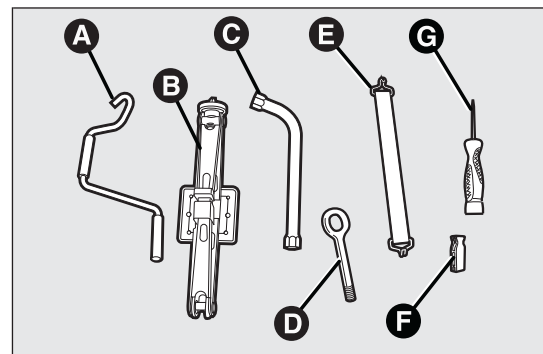
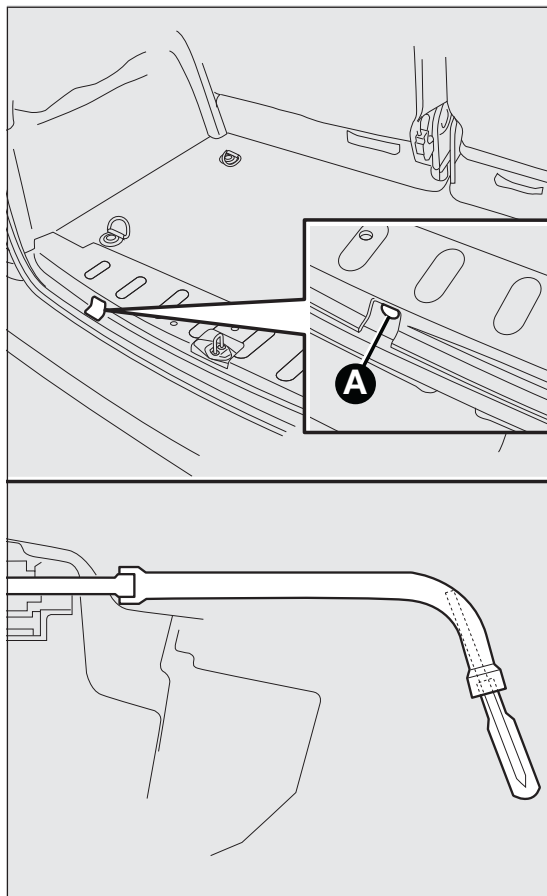
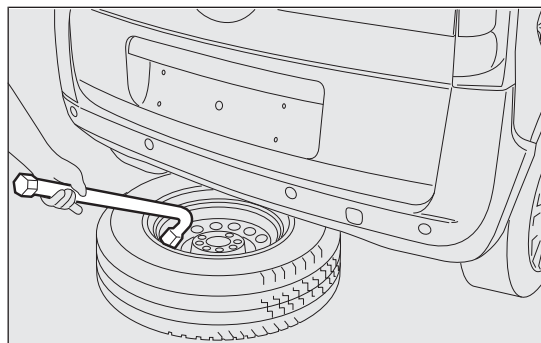

fig. 117
fig. 118
fig. 119
- ☐ the bag contains the following tools fig. 117:
- ☐ Take the wrench **C** fig. 117 and from inside the boot loose the spare wheel fastening bolt **A** fig. 118 to let it down. To reduce the effort, insert screwdriver **G** fig. 117 in the seat in the wrench **C**;
- ☐ use the wrench **C** fig. 117 to remove the wheel from the vehicle fig. 119;
- ☐ loosen the fastening bolts of the wheel to be replaced by about one turn, using the wrench C fig. 117;
- ☐ lift the wheel by fastening the bolt A fig. 118;